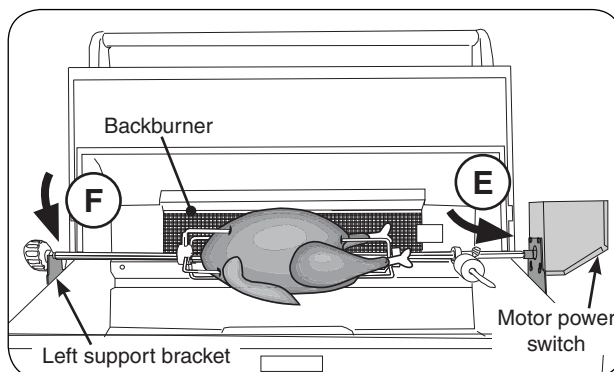

Fig. 28-4 Attach Rotisserie rod to motor
10. Insert the pointed-end of the rod into the motor drive socket (see Fig. 28-4, E). Then rest rod groove (next to the knob) into the left support bracket (see Fig. 28-4, F).